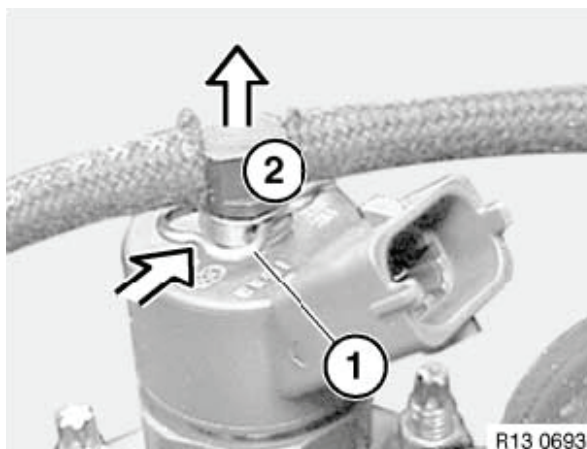

Figure 6-40
4. Push clip (**Figure 6-40, (1)**) in direction of arrow and remove fitting (**Figure 6-40, (2)**) from fuel injector top. Repeat with all fuel injectors.